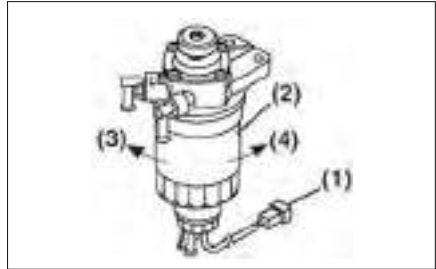
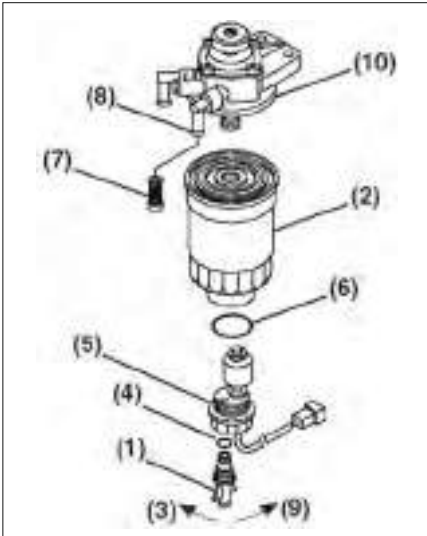

Figure 5-14
Figure 5-15
3. Disconnect the fuel filter sensor connector (**Figure 5-14, (1)**).
5. Carefully open the drain plug (**Figure 5-15, (1)**) to drain fuel from the fuel filter.
6. Remove the fuel filter (**Figure 5-14, (2)**) by turning it to the left (**Figure 5-14, (3)**). Wipe up all spilled fuel.
7. Remove the drain plug (**Figure 5-15, (1)**) from the fuel filter (**Figure 5-14, (2)**) by turning it to the left (**Figure 5-15, (3)**).
8. Check the condition of the drain plug O-ring (**Figure 5-15, (4)**). Replace the O-ring if damaged.
10. Remove the fuel filter sensor assembly (**Figure 5-15, (5)**) by turning it to the left (**Figure 5-15, (3)**).
11. Carefully remove the in-line fuel filter (**Figure 5-15, (7)**) from the output nipple (**Figure 5-15, (8)**) that goes to the fuel injection pump.
13. Carefully install the new in-line fuel filter (**Figure 5-15, (7)**) into the output nipple (**Figure 5-15, (8)**).
14. Carefully install the fuel filter sensor assembly (**Figure 5-15, (5)**) in the new fuel filter using the new O-ring supplied with the fuel filter (**Figure 5-15, (2)**) by turning the fuel filter sensor assembly to the right (**Figure 5-15, (9)**).
15. Install the drain plug (**Figure 5-15, (1)**) on the new fuel filter (**Figure 5-15, (3)**) by turning the drain plug to the right (**Figure 5-15, (8)**). Hand tighten only.
16. Clean the fuel filter mounting surface (**Figure 5-15, (10)**) and apply a small amount of diesel fuel to the gasket of the new filter.
17. Install the new fuel filter (**Figure 5-14, (2)**) by turning it to the right (**Figure 5-14, (4)**) until it contacts the mounting surface. Tighten one additional turn.
19. Reconnect the fuel filter sensor connector (**Figure 5-14, (1)**).